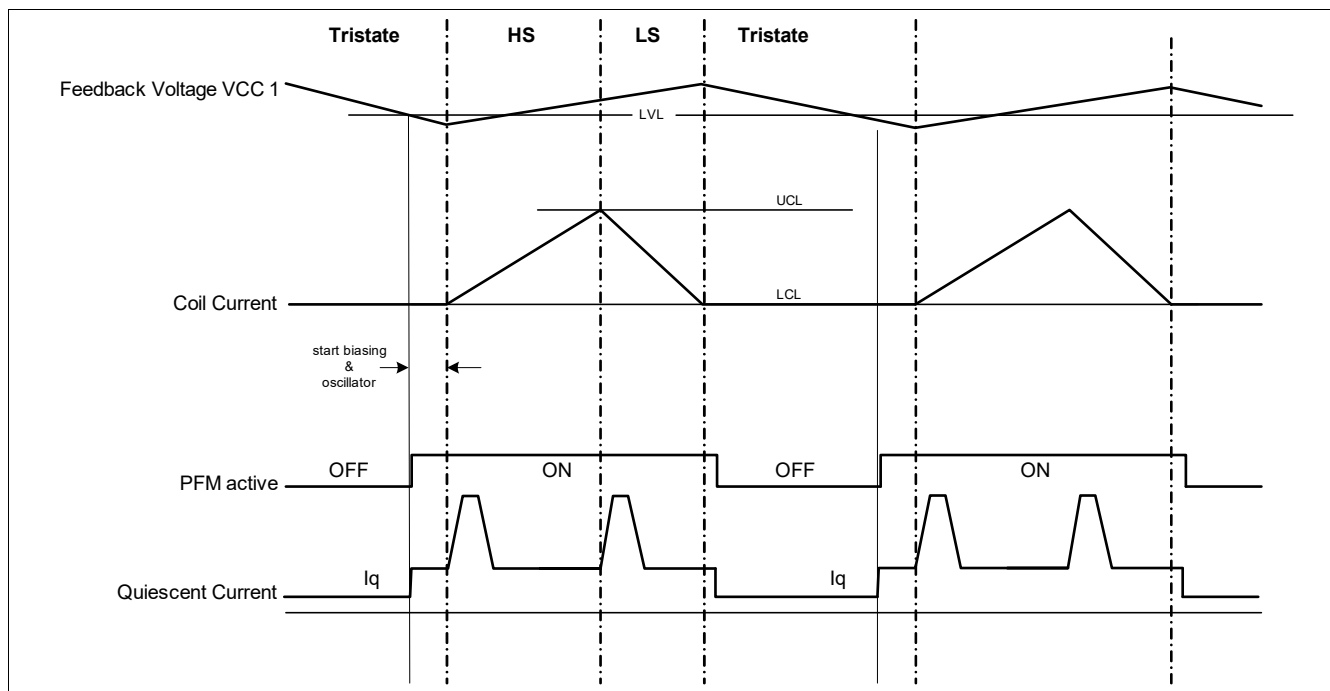

Figure 8 Typical PFM timing diagram
- PFM mode (Pulse Frequency Modulation): This mode is activated automatically when the SBC Stop mode is entered. The PFM mode is an asynchronous mode. PFM mode does not have a controller switching frequency. The switching frequency depends on conditions of the buck regulator such as the following: input supply voltage, output voltage, output current and external components. A typical timing diagram is shown in Figure 8. The buck converter in PFM mode has a tolerance of $\pm 4\%$. The transition from PFM mode to PWM mode is described in Chapter 6.4.2